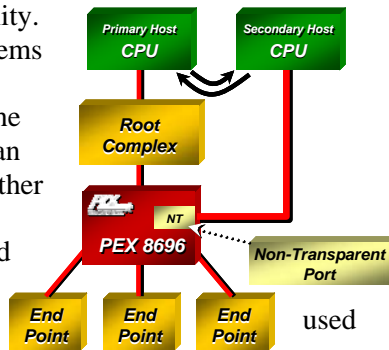

Figure 3. Non-Transparent Port
In Single-Host mode, the PEX 8696 supports a **Non-Transparent (NT) Port**, which enables the implementation of **dual-host systems** for redundancy and host failover capability. The NT port allows systems to isolate host memory domains by presenting the processor subsystem as an endpoint rather than another memory system. Base address registers are used to translate addresses; doorbell registers are used to send interrupts between the address domains; and scratchpad registers (accessible by both CPUs) allow inter-processor communication (see Figure 3).